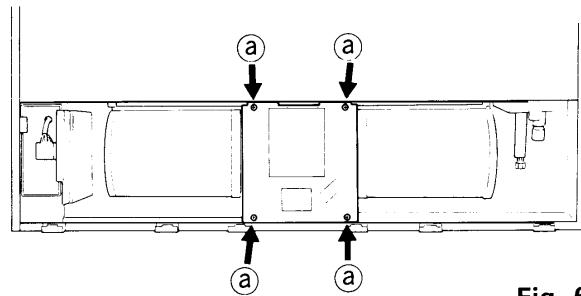

Fig. 6
- 3) Remove the four screws (a) fixing the fan motor cover. Fig. 6